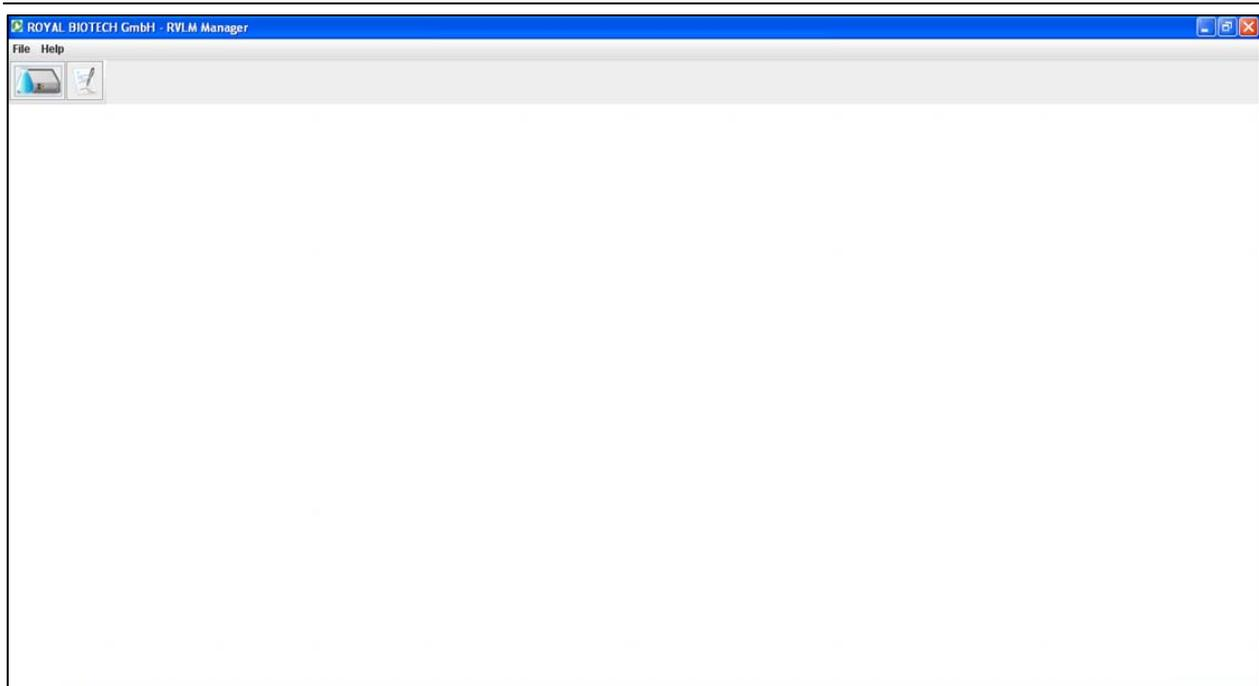
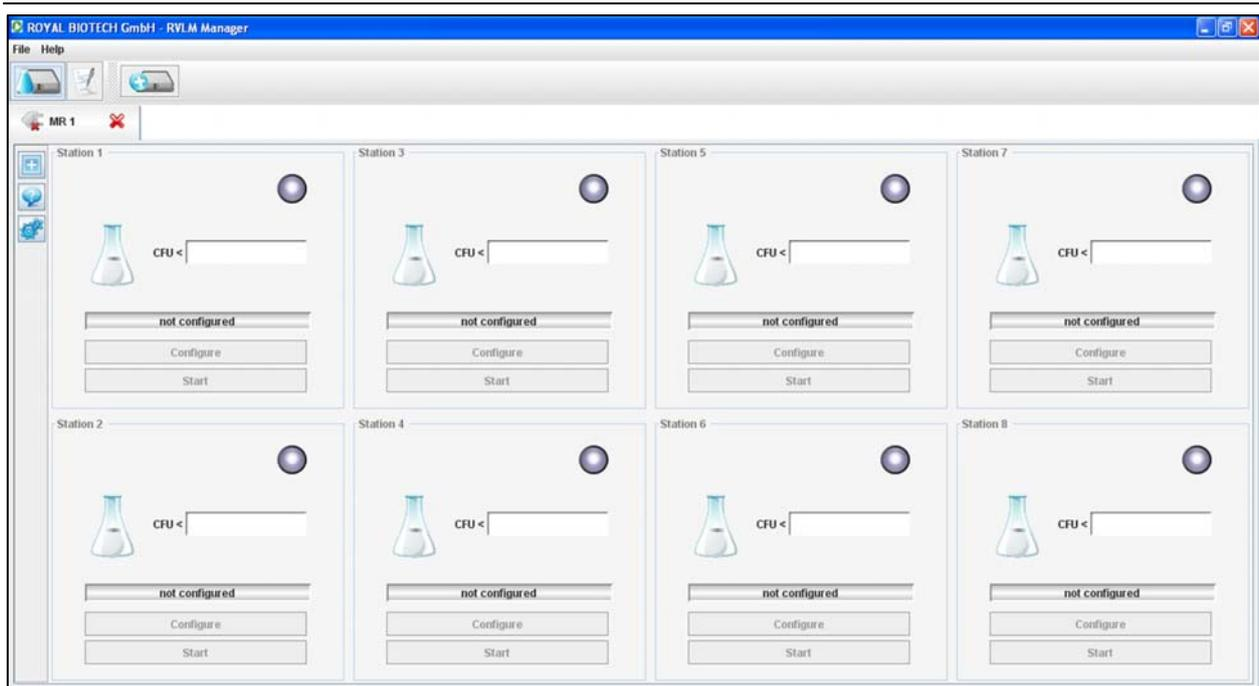

Fig. 2. RVLM – Startup screen
Fig. 3. RVLM – User interface
- Double click on the “RVLM” link on the desktop. The main user interface of the RVLM will appear (fig.2).
- Click on “File” and then on “Devices”. The user interface is now ready to use (fig.3). **Note:** the user interface can be also opened by clicking on the “Layout devices” button (see red arrow in fig.2).
- Click on “File” and then “Add devices” to connect other devices (fig.3). **Note:** another device can be connected also by clicking on “+ Add devices” button (see red arrow in fig.3).
- Click on “File” and then on “Devices” to return to the User interface (fig.3). **Note:** *you can also click on “Layout devices” button.*